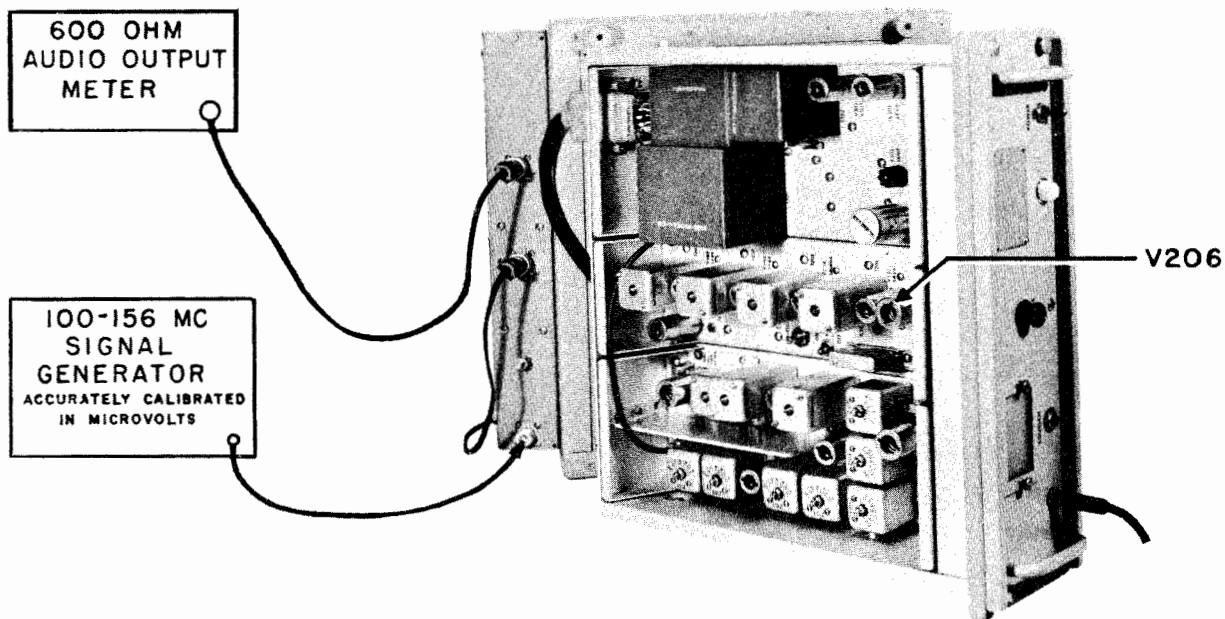

Figure 7-15. Equipment Set-up for Making Sensitivity Check
(2) Connect the 600 ohm audio output meter across pins A and B of audio receptacle J503, located on the rear panel. (See figure 7-15.) Proceed with the test, as outlined in table 7-10.